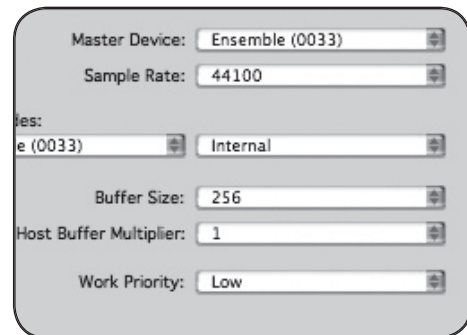

figure 29
2. Set **Master Device** to **Ensemble** (figure 29)
3. Set **Work Priority** to **Low** (figure 29)